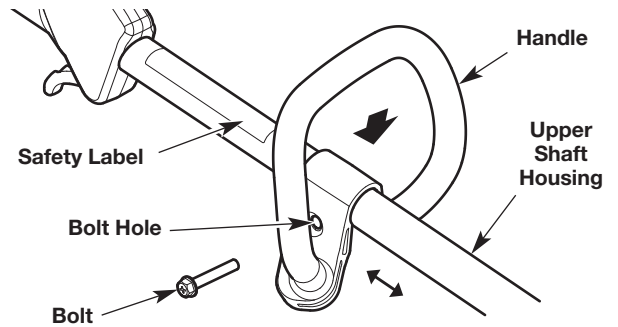

Fig. 3
1. Push the handle down onto the upper shaft housing (Fig. 3). Make sure the bolt hole faces to the right (Fig. 3).
2. Insert the bolt into the bolt hole and push it through (Fig. 3). Tighten the bolt with a flat-head screwdriver, but do not tighten the bolt completely.
3. Hold the unit in the operating position (Fig. 11). Move the handle up or down the upper shaft housing to a comfortable location (Fig. 3). Make sure the handle is positioned beyond the end of the safety label (Fig. 3).
1. Loosen the bolt with a flat-head screwdriver (Fig. 3).
2. Hold the unit in the operating position (Fig. 11). Move the handle up or down the upper shaft housing to a comfortable location (Fig. 3). Make sure the handle is positioned beyond the end of the safety label (Fig. 3).